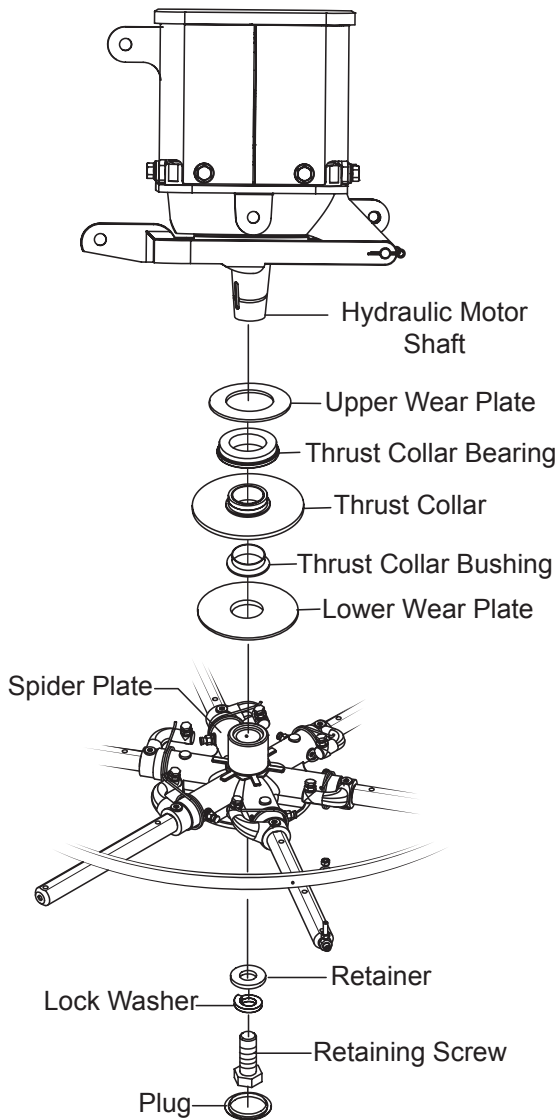

Figure 47. Spider Removal
1. Locate the cone point square head set screw (Figure 47) and attached jam nut found on the side of the spider assembly.